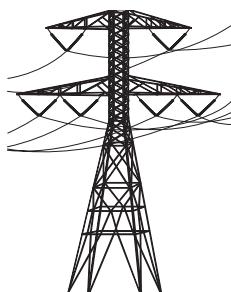

fig. 1
On the back of the machine there is also a terminal marked by the symbol (see fig.1) used for the equipotential connection between different appliances. The dataplate gives the max. power value in watts (W) and amperes (A), for dimensioning of the line, cable and switches.